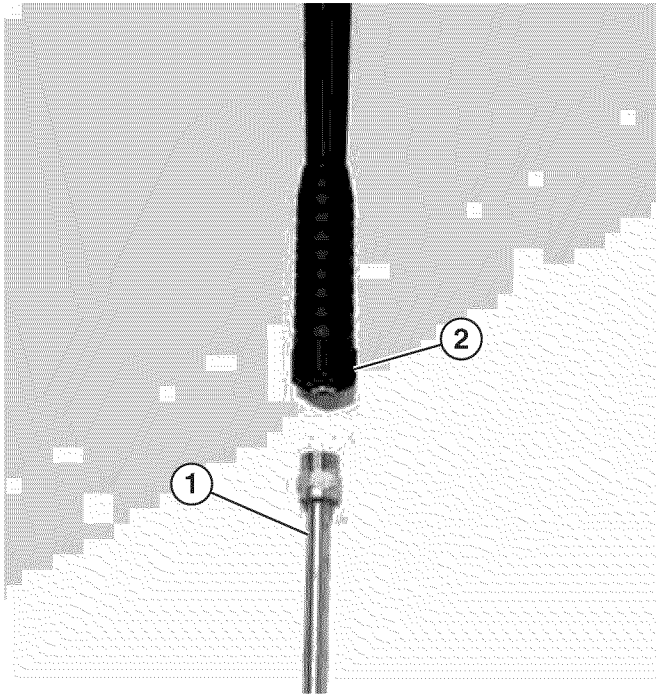

Figure 11 – Connecting Spray Wand
10. Connect the wand to the spray gun and turn the fitting counterclockwise to tighten (see Figure 11). Do not overtighten. The fitting only needs to be hand-tight.